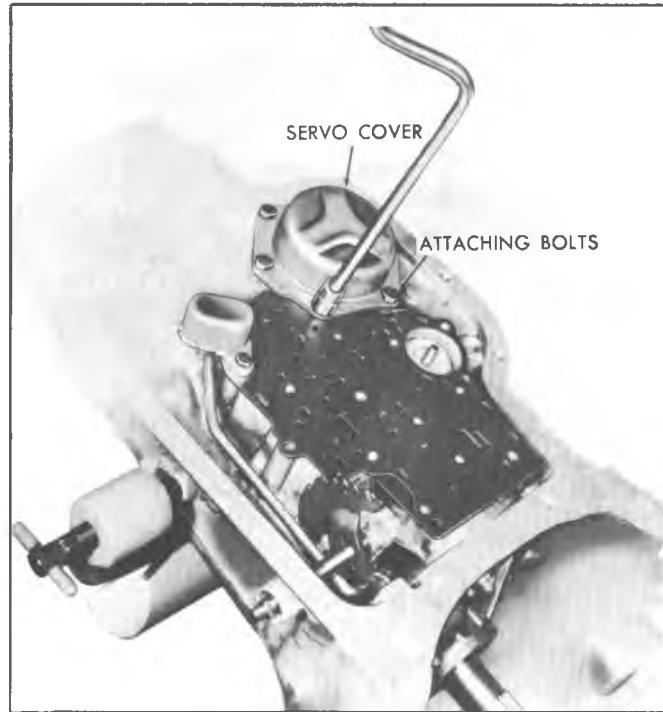

Fig. 7A-13C--Removing Rear Servo Cover Attaching Bolts
4. Make band apply pin selection check to determine possible cause of malfunction (Fig. 7A-15C).